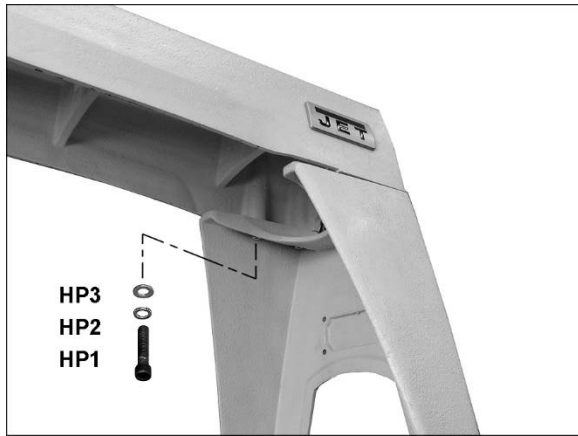

Figure 5-3: installing legs
2. Position lathe onto legs and secure with screws and washers (HP1/2/3, Figure 5-3) using 6mm hex key.
4. Install legs with screws and washers (HP1/2/3, Figure 5-3) using 6mm hex key.